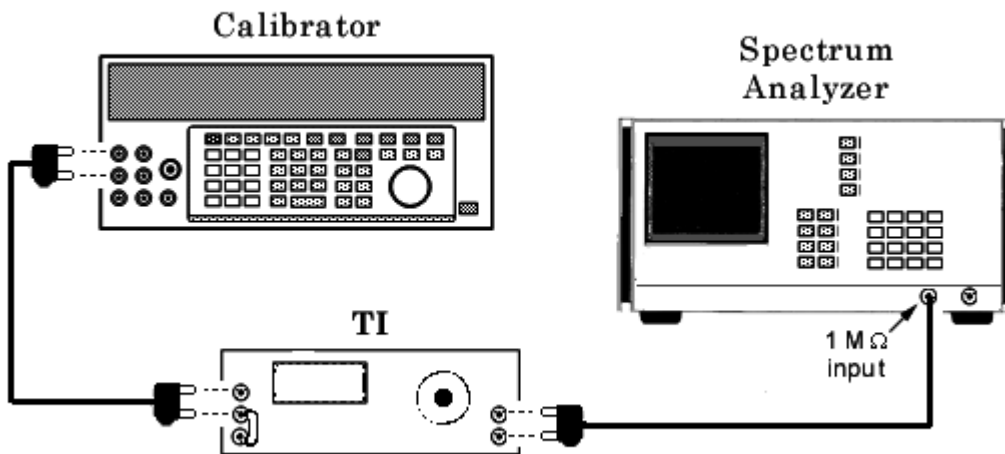

Figure 4. Fundamental frequency rejection (alternate method) - equipment setup.
- (1) Connect equipment as shown in figure 4.
- (2) Repeat 17 a (2) and (4) through (5) above.
- (3) Adjust **SENSITIVITY** and **VERNIER** controls for a 0 dB indication on TI meter. Record spectrum analyzer 500 Hz signal amplitude (as reference).
- (4) Repeat 17 a (7) and (8) above.
- (5) Add dB readings of **METER RANGE** switch and spectrum analyzer signal amplitude. Total dB change will be greater than 80 dB below indication recorded in (3) above.